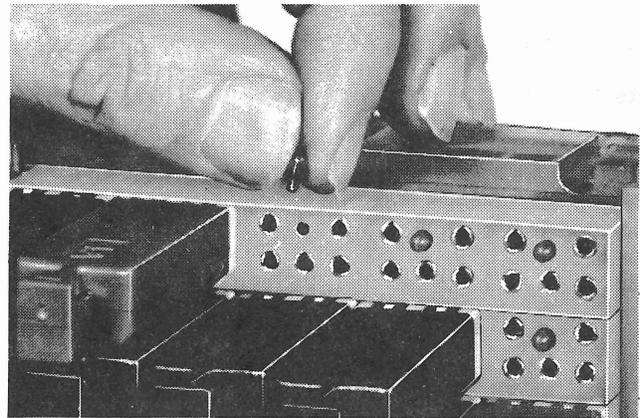

Figure 38. Circuit Designation Pin
22.01 The red colored Circuit Designation Pin is used to mark the position of a special circuit protector module (also colored red) when the protector module is removed. The pin fits into the blind hole opposite the ground pin terminal on the front of the connector base (see figure 38).